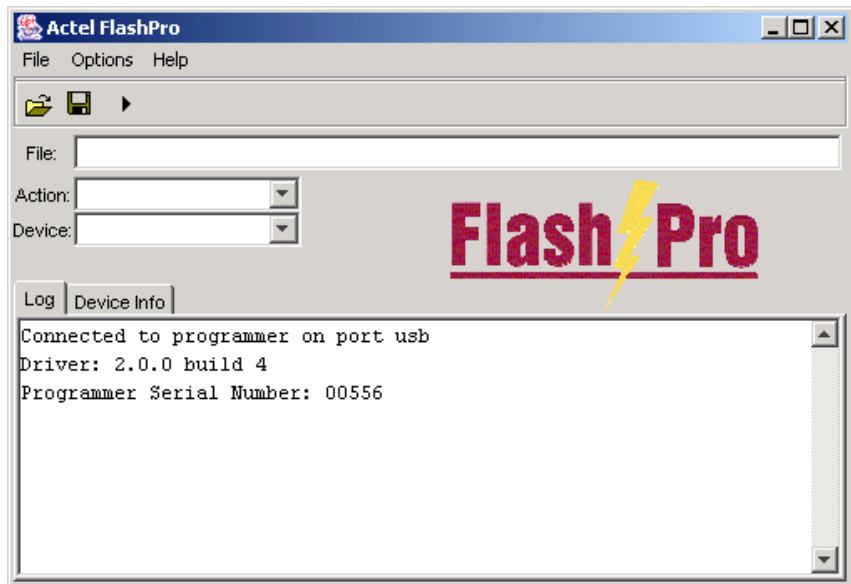

Figure 4-2. FlashPro: Successful Connection
5. Click *Connect*. A successful connect or any errors appears in the **Log** window, as shown in Figure 4-2. If you encounter failures, please refer to “Error Messages & Troubleshooting Tips” on page 89 for more information.